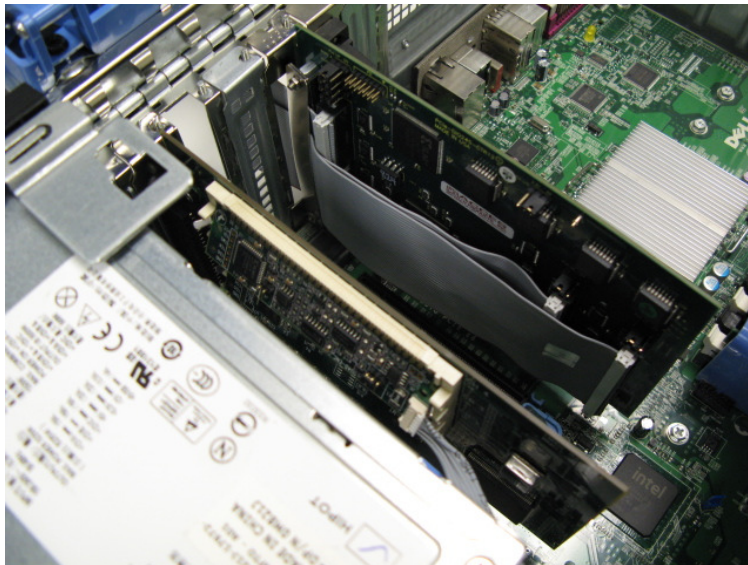

Figure 10. Final Installation.
9. Install the Add-on Card in the slot, seating it fully in the slot on the motherboard and securing it to the back panel with a screw (See Figure 10).